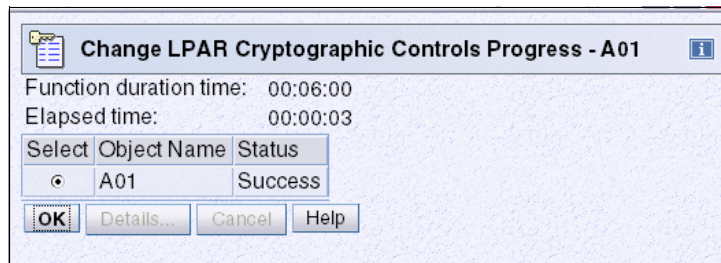

Figure 8-15 SE - Change LPAR Cryptographic Controls (Success)
- A status panel indicates the result of a dynamic add or change of a cryptographic definition to an LPAR, as shown in Figure 8-15 on page 351.